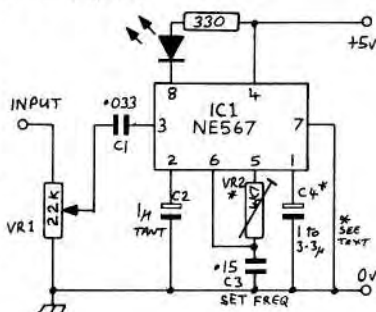

Fig.1 Circuit diagram
The circuit diagram is shown in Fig.1. SSTV sync pulses are fed to the input and an adjustable level then passed to IC1. IC1 is a phase-locked loop decoder whose detection or 'free-run' frequency is set to SSTV sync frequency (1200Hz) by VR2. When this frequency is present at the input (indicating correct tuning), the output pin (8) changes its logical state and illuminates the LED indicator.